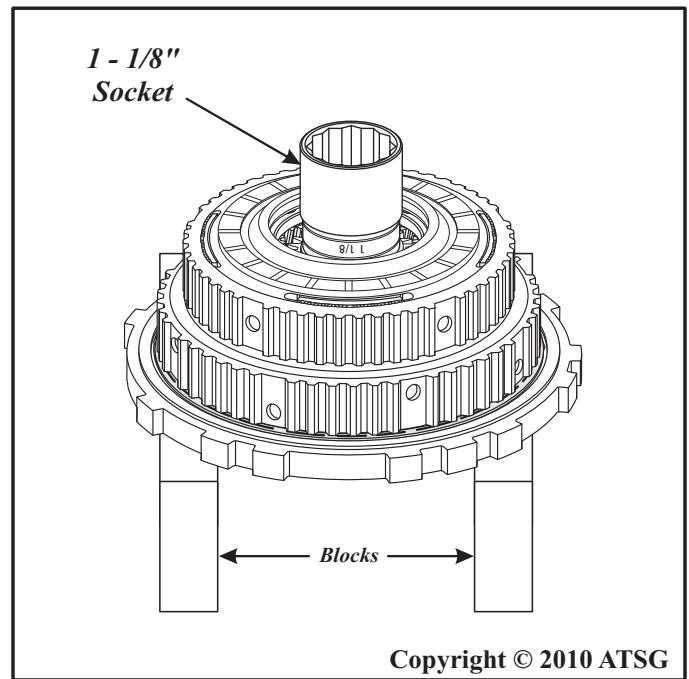

Figure 136
13. Place a 1-1/8", 1/2" drive socket on the rear sun gear, as shown in Figure 136.